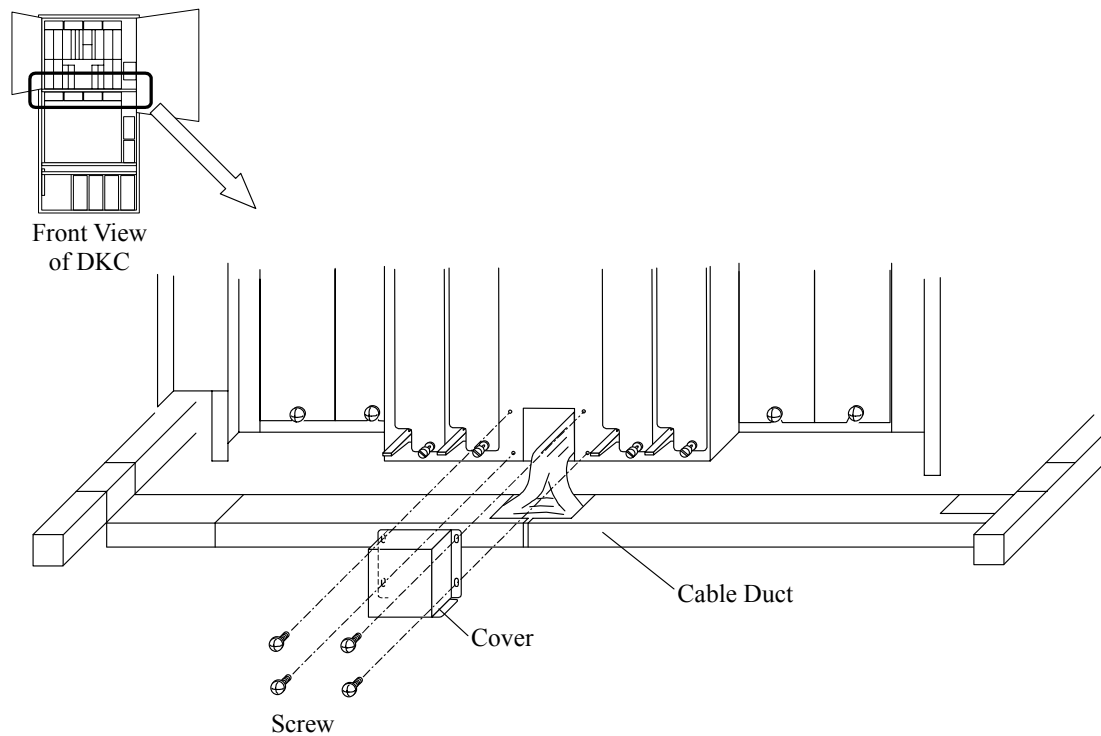

Fig. 3.16-6 Removal of Cover
i. Attach the cover with the screws. Refer to Fig. 3.16-6.